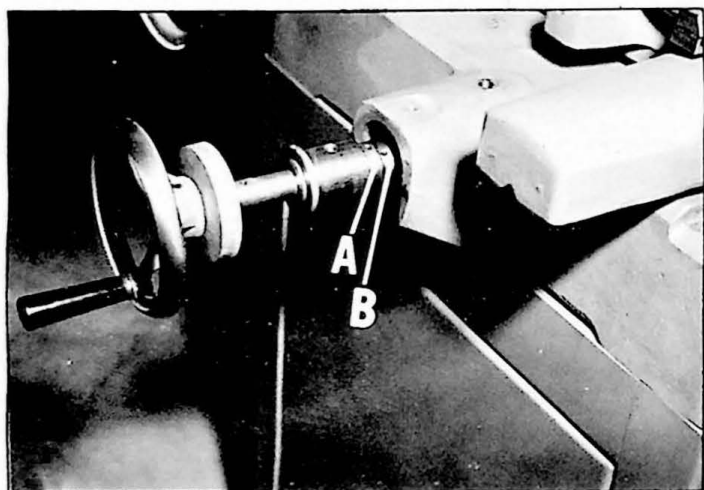

Fig. 15.
2. Turn cross feed handwheel counterclockwise until the two adjusting collars (A) and (B) Fig. 15, are accessible.
3. Adjustment is made by tightening or loosening the adjusting collar (A) Fig. 15, to the desired snugness and locking with the collar (B).